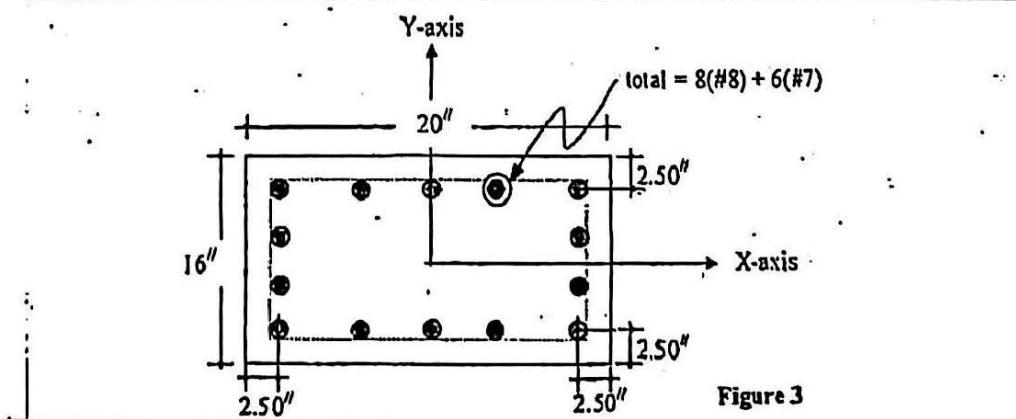

Figure 3
2. (a) What are stages of loading needs to be considered in designing pre-stressed concrete members? (4)
(b) A reinforced concrete rectangular tied column (16 inch \times 20 inch) of a building is reinforced with eight No. 8 and six No. 7 bars as shown in Figure 3. The column is subjected to following axial loads & bi-axial moments (unfactored). Check the adequacy of the column section using Bresler Reciprocal Load method. Given : $f_c' = 4$ ksi, $f_y = 60$ ksi & interaction diagram is supplied at the end. (15)